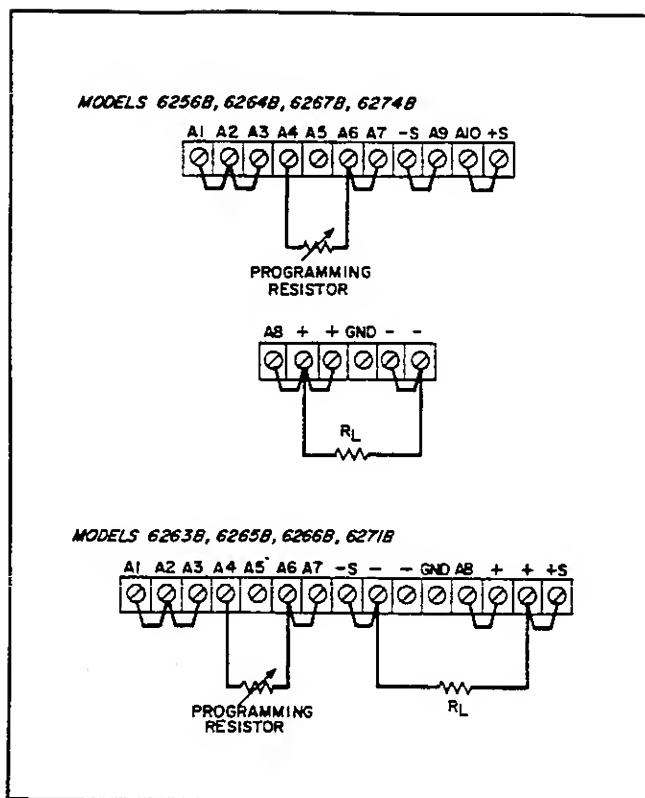

Figure 3-6. Resistance Programming of Output Current
**3-40 Constant Current Output, Resistance Input.** The rear panel connections shown in Figure 3-6 allow the output